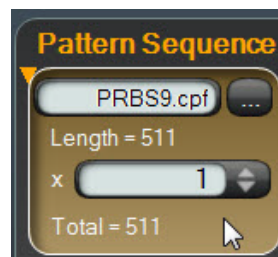

Figure 75. Selecting a single sub-pattern
1. To select a single sub-pattern, click in the sub-pattern box. When selecting, do not click on the text fields, up or down arrows, or the ... button. Refer to Figure 75.